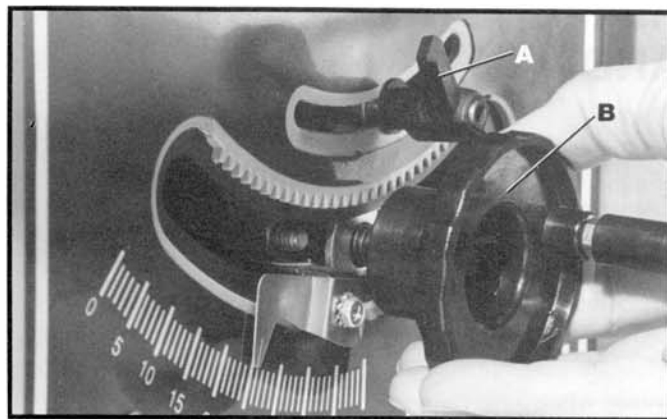

Fig. 21
RAPID BLADE TILTING - Loosen blade tilting lock handle (A) Fig. 21, move the handwheel assembly (B) until the blade is at the desired angle and tighten lock handle (A).
NOTE: The lock handle (A) Figs. 21 and 22, is spring-loaded and can be repositioned by pulling out on the handle and repositioning it on the serrated stud located underneath the handle. **WARNING: THE BLADE TILTING LOCK HANDLE (A) FIGS. 21 AND 22, MUST BE LOCKED DURING ALL CUTTING OPERATIONS.**